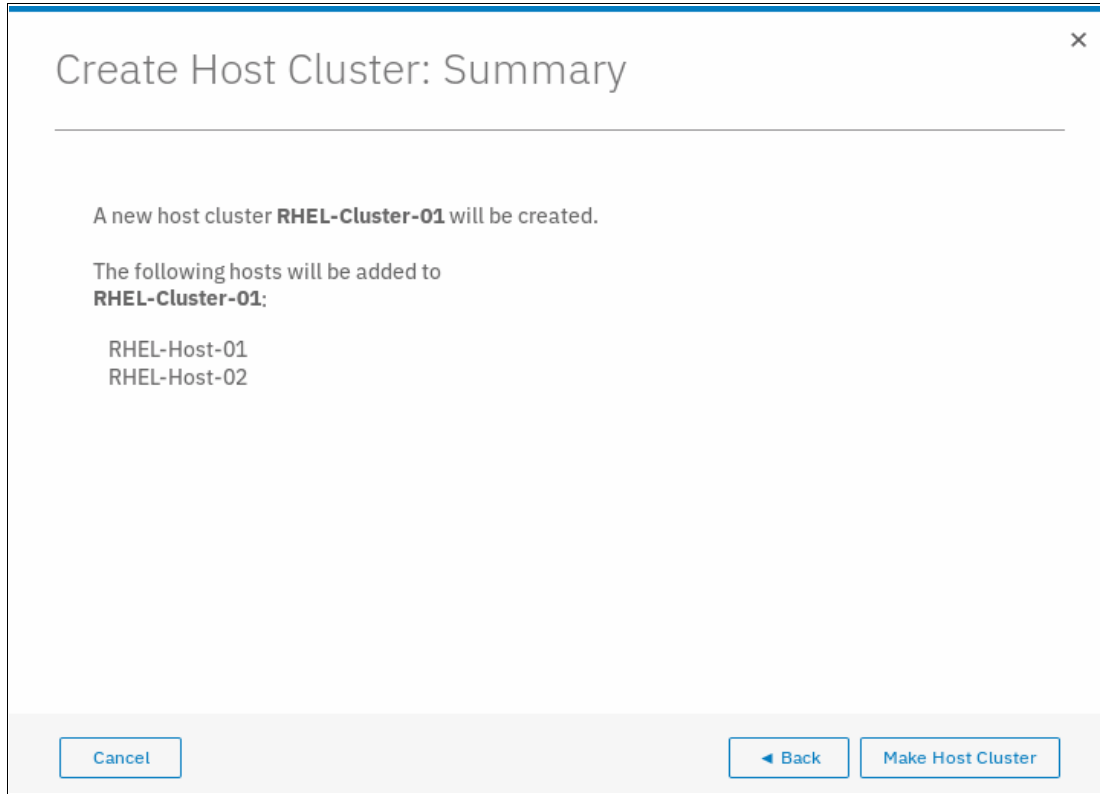

Figure 5-74 Create Host Cluster: Summary
5. Click **Next** and a summary is displayed, as shown in Figure 5-74.